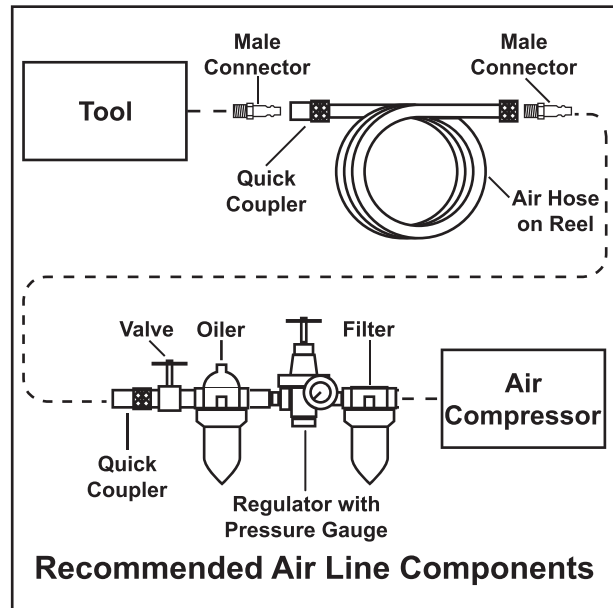

Fig. 3
- This Jack comes in two boxes and easily connects to an air compressor. For proper Jack/Air compressor connection, see Fig. 3.
- Attach an air hose to the compressor's air outlet. Connect the air hose to the Air Valve Assembly (5) of the Bottle Jack. Other components, such as a connector and quick coupler, will make operation more efficient, but are not mandatory.